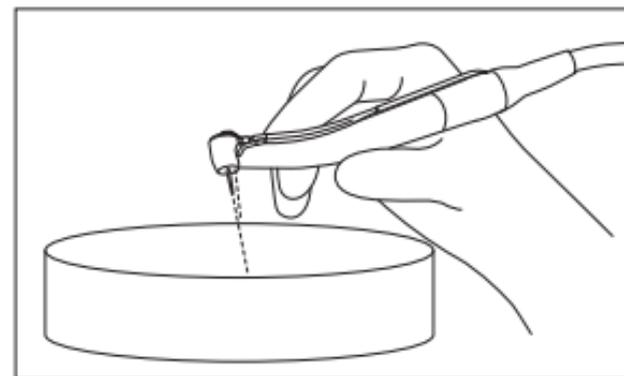

Fig. 12 19
3) Operate the handpiece while running clean water at maximum flow rate into the irrigation tube with the irrigation nozzle, at the chair-side for at least 20 seconds to purge fluids in the handpiece (Fig. 12). After the handpiece rotation has completely stopped, touch the handpiece head to confirm the head is NO heating abnormally. (Water temperature 38°C (100°F) or less, drinking water level of water quality recommended)